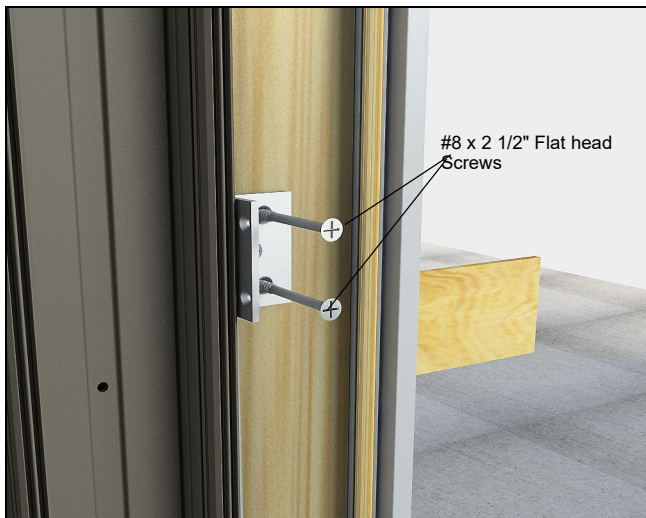

Figure 61
- Install the stationary bracket, installation #8 x 2 1/2" flat head screws through the brackets and into the rough opening. At top and bottom of wood filler fasten using #8 x 3" washer head screws using counter-bored holes. Ensure there are adequate shims between the rough opening and stationary jamb where the brackets are located. See figure 61.